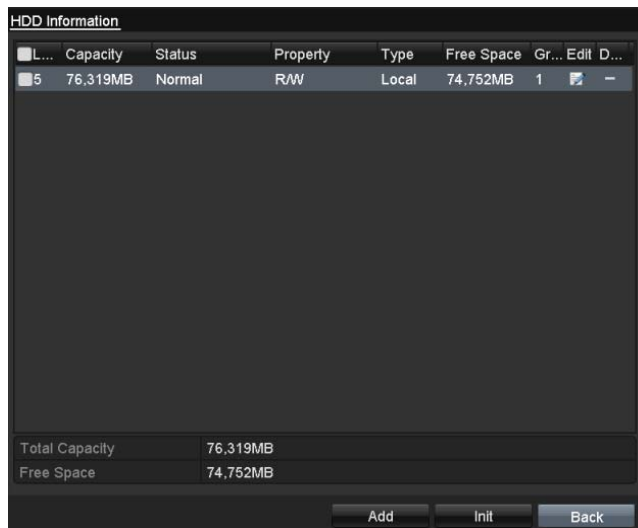

Figure 13. 21 View HDD Status (1)
2. Check the status of each HDD which is displayed on the list, as shown in Figure 13. 21.